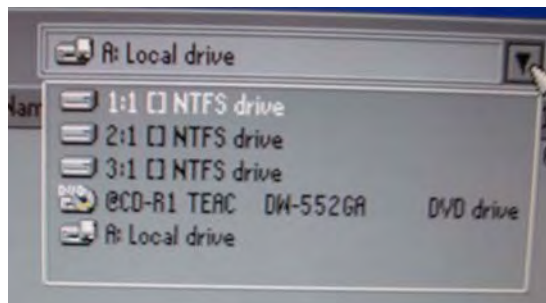

Figure 1-157. Ghost Disk Verification III
4. Click on down arrow (▼) to display the disk list (Figure 1-157).